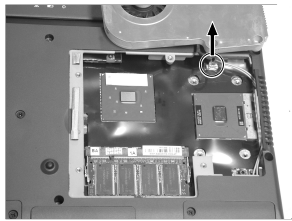

Figure 2-8 Remove the fan's power cord
4. Disconnect the fan's power cord from system board. (Figure 2-8)